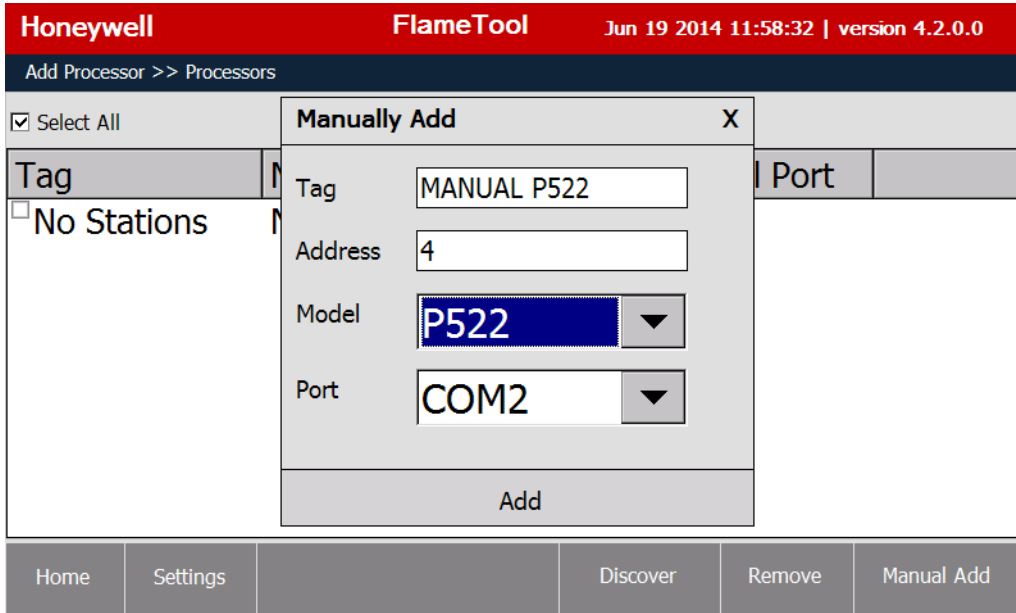

Fig. 15.
- Complete the following for each processor (see Fig. 15):